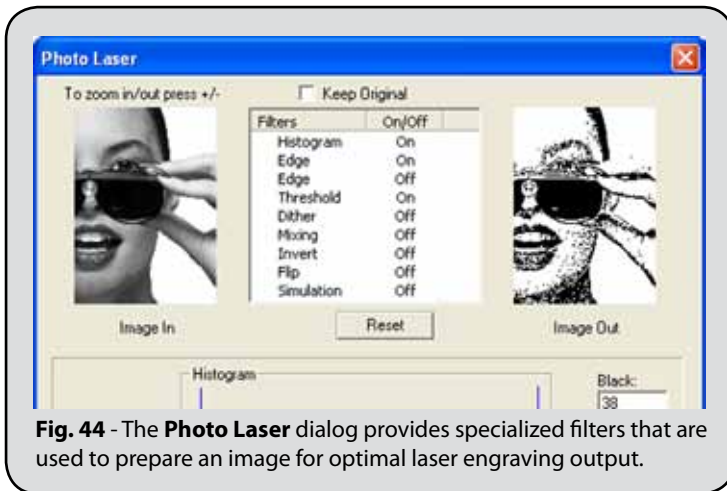

Fig. 44 - The **Photo Laser** dialog provides specialized filters that are used to prepare an image for optimal laser engraving output.
3. The **Photo Laser** dialog (Fig. 44) will preview the effect of applying the various filters.